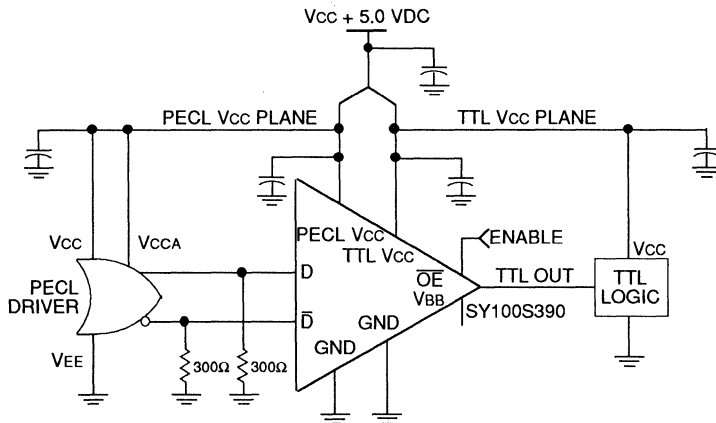

Figure 3.
1. Device performance will be enhanced by the use of dual VCC power planes, as illustrated in Application Figures 3 and 4. This will minimize the coupling of TTL switching noise into the primary reference to the PECL circuitry and take full advantage of the SY100S390's on-chip VCC partitioning.
6. Figure 3 illustrates typical differential input operation.